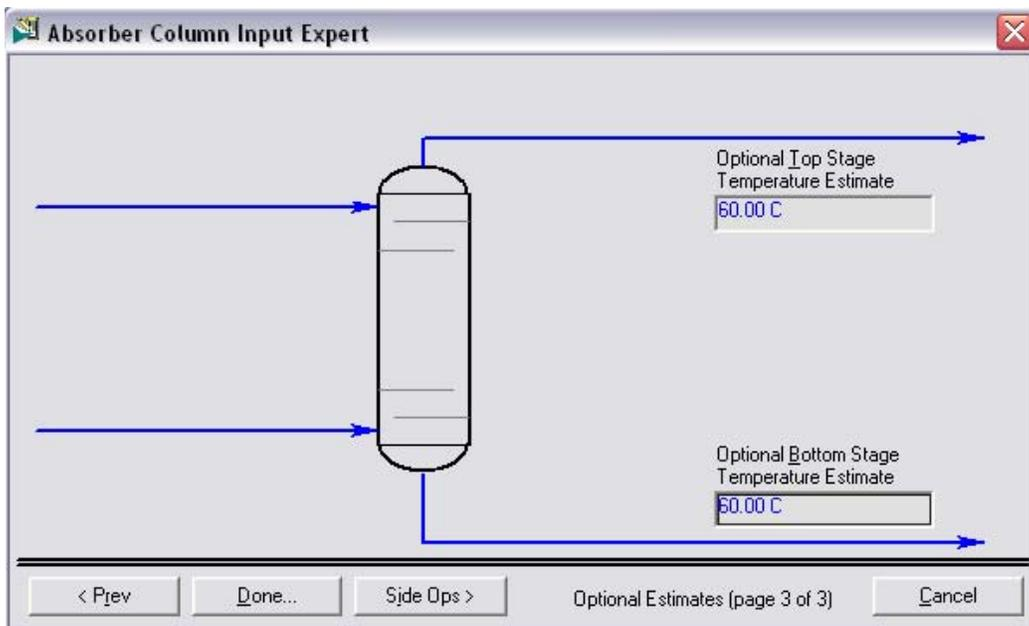

Figure 11-3
- Click **Next**, and then enter the following information as shown in Figure 11-3. Then, click the **Done...** button.